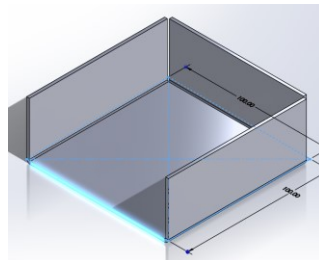
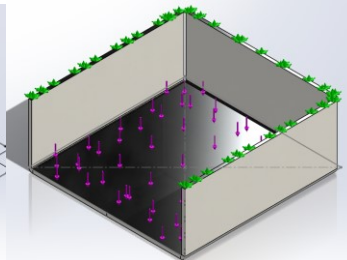
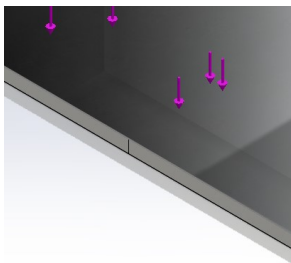

Figure 12
Figure 13
Figure 14
- From the Surfaces (or Features) tab click *Curves* → *Split Line*. Under *Type of split* select *intersection*, under *Splitting Bodies/Faces/Planes* select the Right Plane, under *Faces/Bodies to split* select the face indicated in Figure 12. Your simulation should now look like Figure 13. Notice the Split line in Figure 14. Re-run the study.